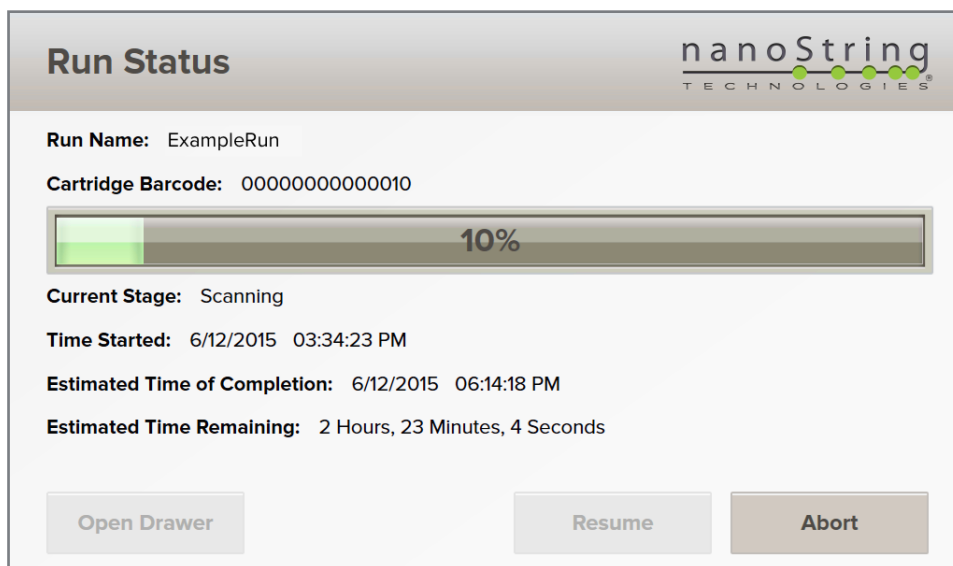

FIGURE 6.13 The Run Status screen.
1. To abort a run in progress, press the **Abort** button on the Run Status screen (FIGURE 6.13).